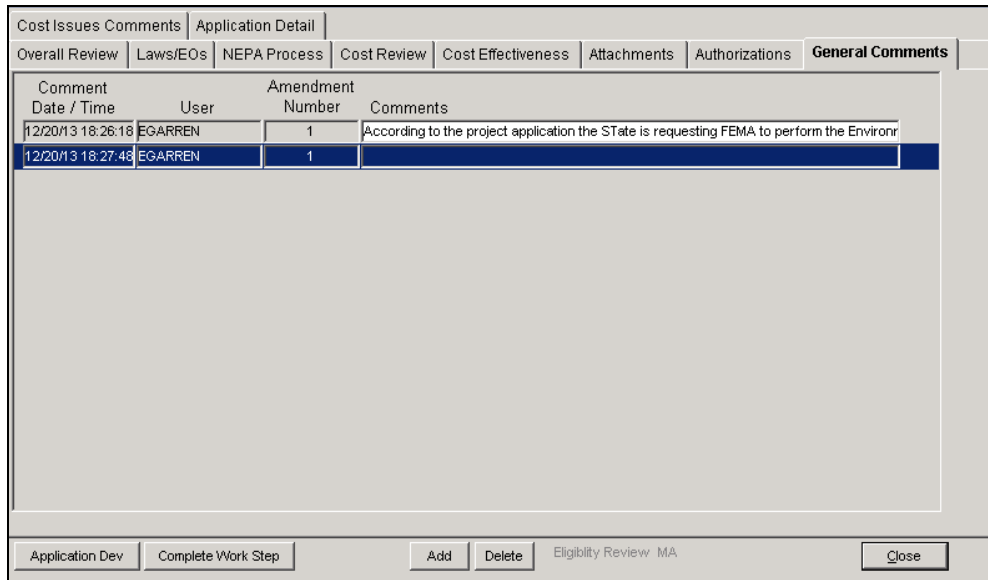

Figure 7-80: General Comments Tab with New Row
7. On the bottom middle part of the tab, click the ADD button. A new row for comments is added, with your User Name and the Comment Date/Time displayed (Figure 7-80).